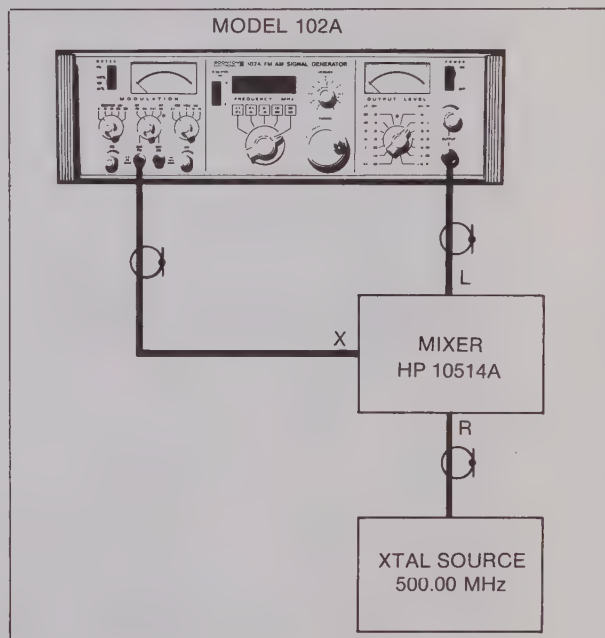

Figure 4-3 Clock Frequency Adjustment, Test Setup
a. Connect the Model 102A and test equipment as shown in Figure 4-3.